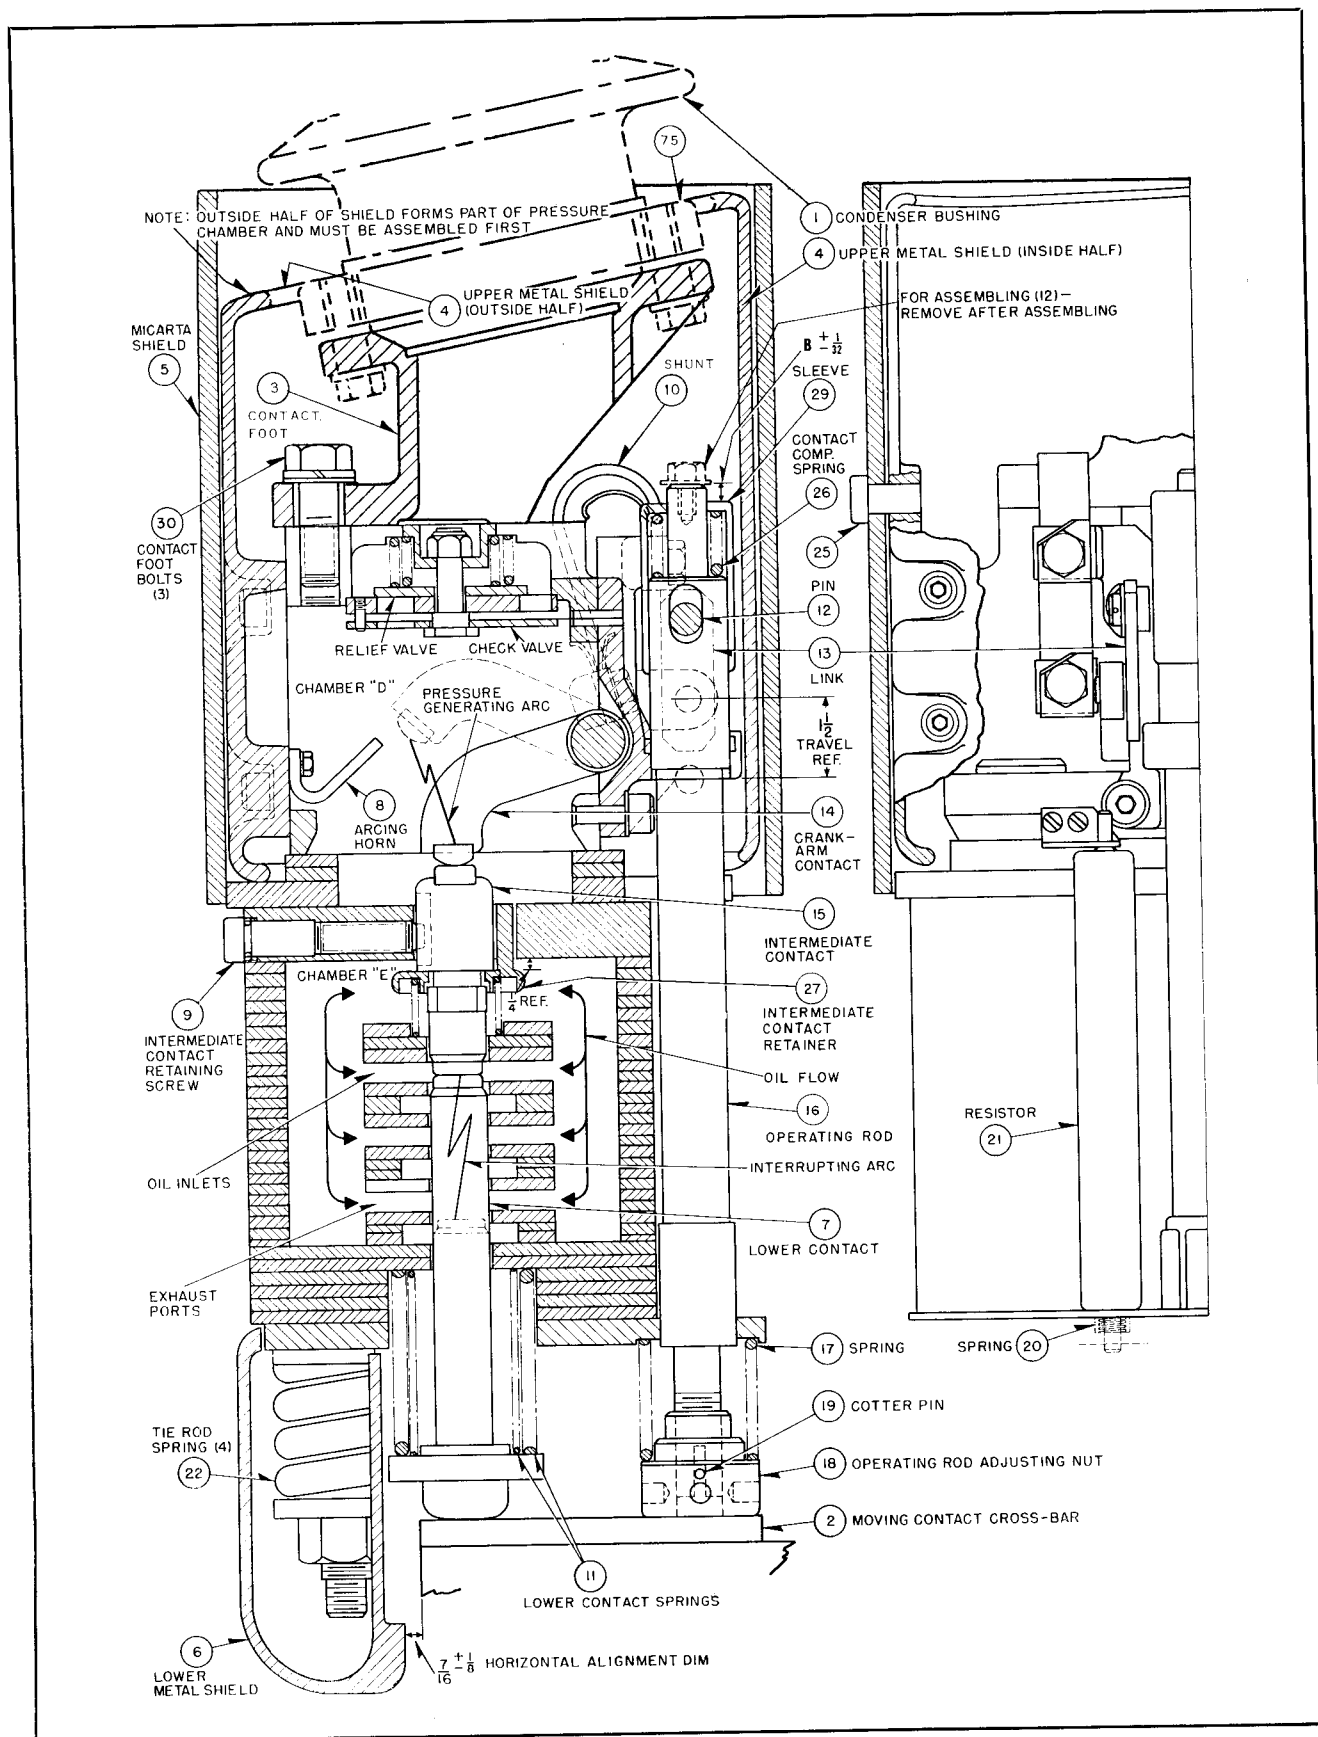

FIG. 16. Stationary Contact Assembly
The contact assembly shown in Fig. 16 consists of one interrupting unit per terminal (2 per pole) and a moving contact to bridge the two interruptors and complete the circuit.
Note: The numbers in the text refer to items shown in Fig. 16.
The oil passages may be seen in Fig. 16. The oil is forced into chamber "E" through passages (not shown) in the thick grid plate which guides the intermediate contact, and from there down either side of the grid into inlets on each side of the arc path. The oil flow along the arc path de-ionizes the arc, and the arc products pass out of the grid through exhaust vents on either side of the grid. The position of the vents is staggered in height with respect to the inlets and are located at 90 degrees around the grid. The name of this interrupter, "Multi-Flow De-ion Grid" is readily apparent from this description. The interruption is due to the flow of fresh, un-ionized oil along the arc path through a multiple-orifice arrangement. After the main arc is interrupted, the circuit is broken and hence the pressure arc can no longer be maintained.
The mechanical operation of the contacts may best be observed by examining a closing operation. The moving contact (2) first picks up the lower contact (7) to establish the resistor circuit. Further movement picks up the operating rod (16). As the operating rod moves upward, the hinged crank arm contact (14) moves downward until it touches the intermediate contact (15). At this point the intermediate contact is in its extreme upper position (closed position dimension of $\frac{1}{4}$ " is zero here), and there is a gap of approximately $\frac{3}{4}$ " between the lower end of the intermediate contact and the lower contact (7). The crank arm contact continues to move downward, pushing the intermediate contact ahead of it, until the latter touches the lower contact coming up thus completing the circuit through the grid. The final $\frac{1}{4}$ " of moving contact travel reverses the movement of the intermediate and crank arm contacts to their final position as shown on Fig. 16 and at the same time compresses the contact compression spring to the $\frac{3}{8}$ " dimension at "B". This reversal of movement is possible due to the fact that the crank arm contact is not rigidly connected to the operating rod (16). Instead, it is connected through a pair of links (13) to the sleeve (29) which is spring biased to the operating rod.